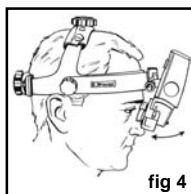

fig 4
Position the Binocular Block (R) as close to the eyes or spectacles as possible for maximum field of view. Slightly loosen the hinge mechanism control (E) knob to allow for adjustment and tighten when in position as in (Fig 4).